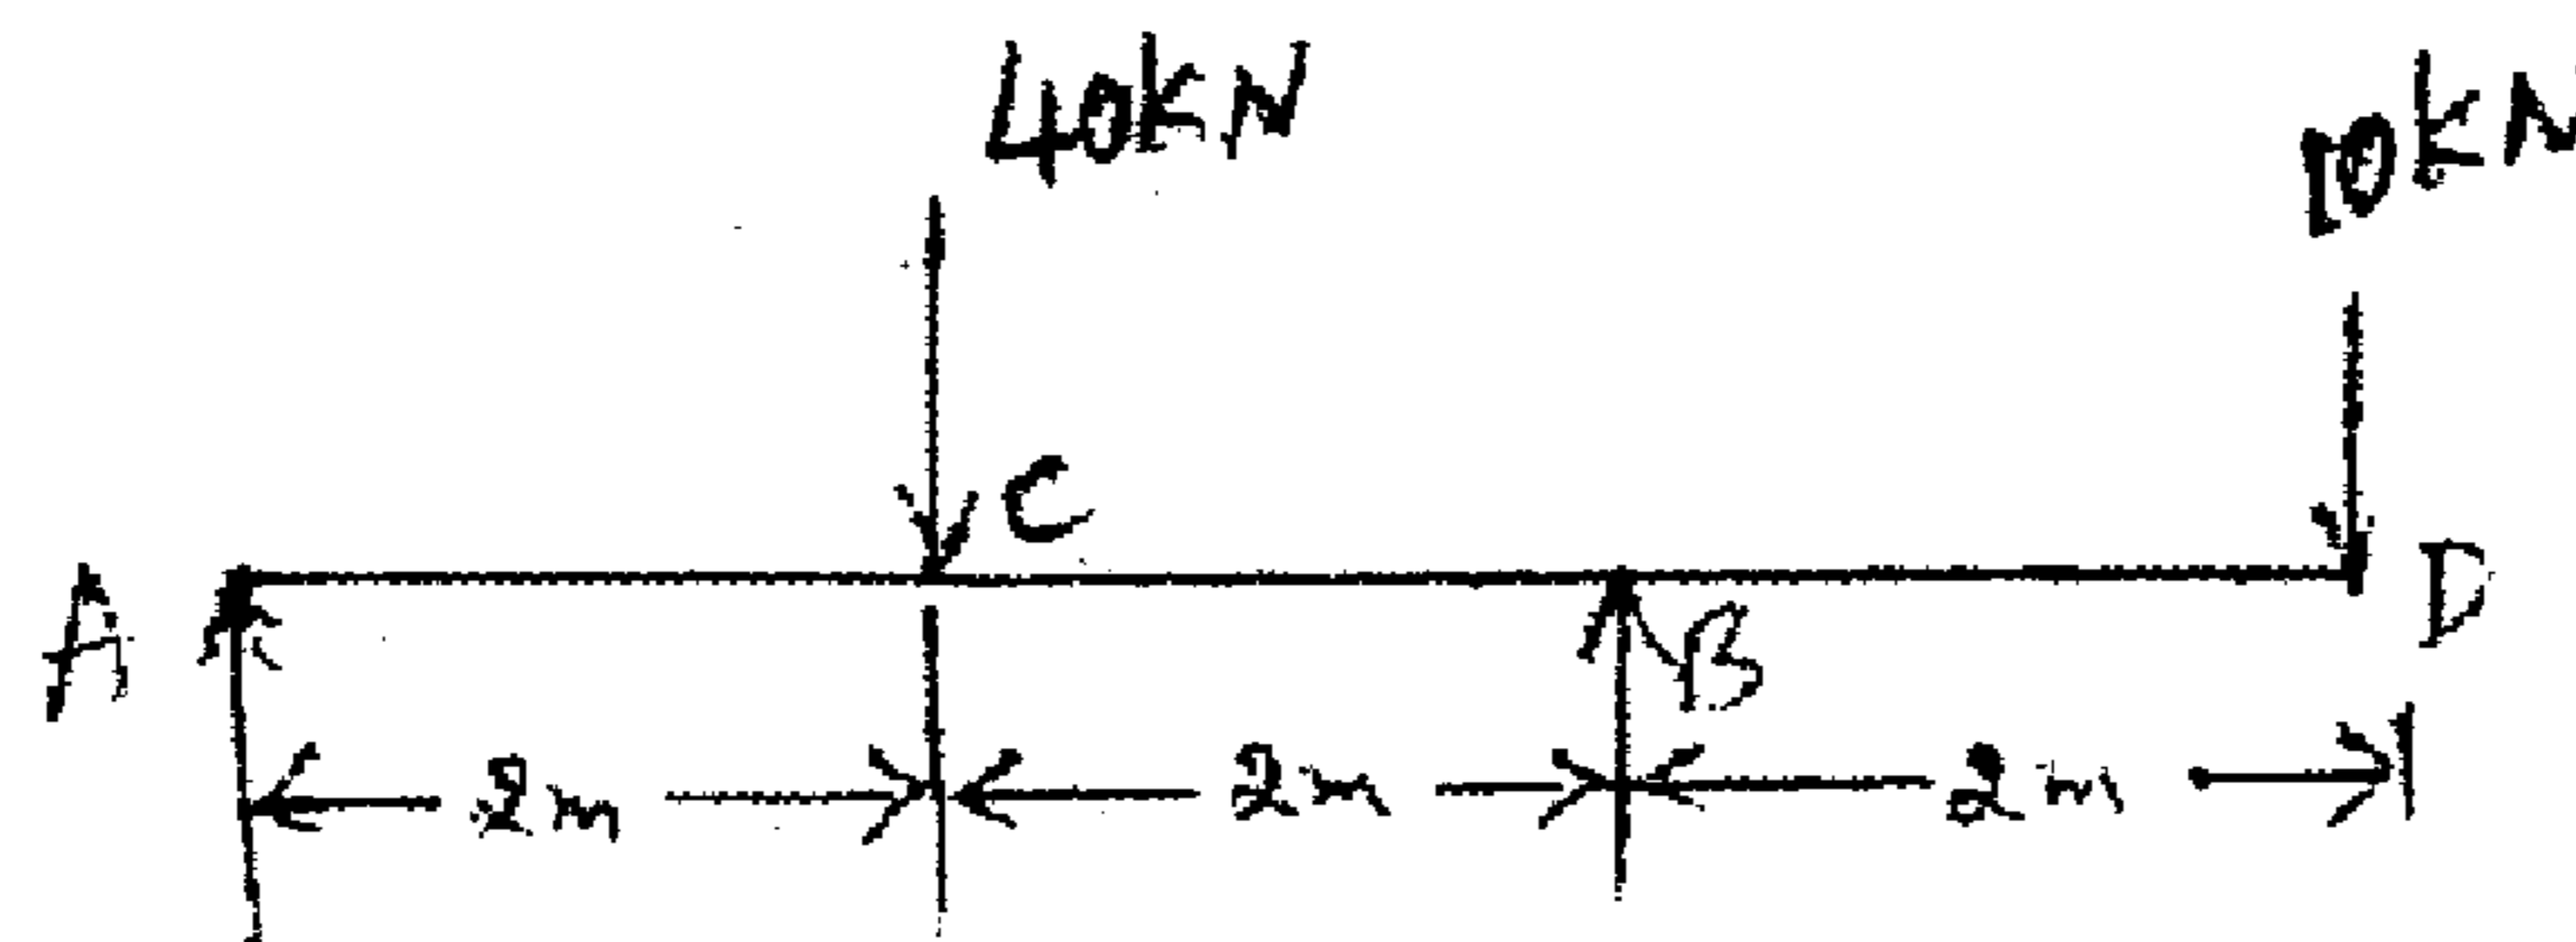

Fig.6(b)
b. Determine the deflection under the loads in the beam shown in fig.6(b). Take flexural rigidity as  $EI$  through out. (10 Marks)